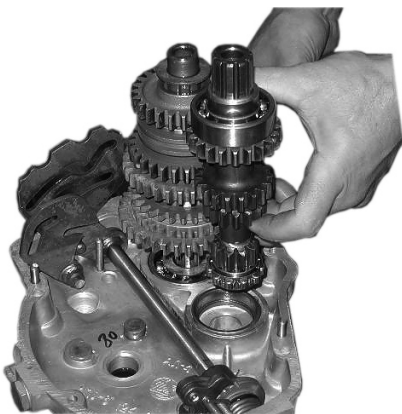

Fig. 49.
- Set the clutch shaft and main shaft into the cover bringing their teeth in mesh (Fig. 49);